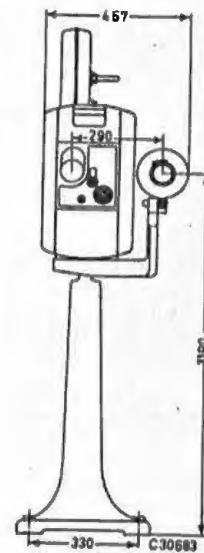

Fig. 2
- Fig. 2 Dimension sketch projector on base with projection device for slides.